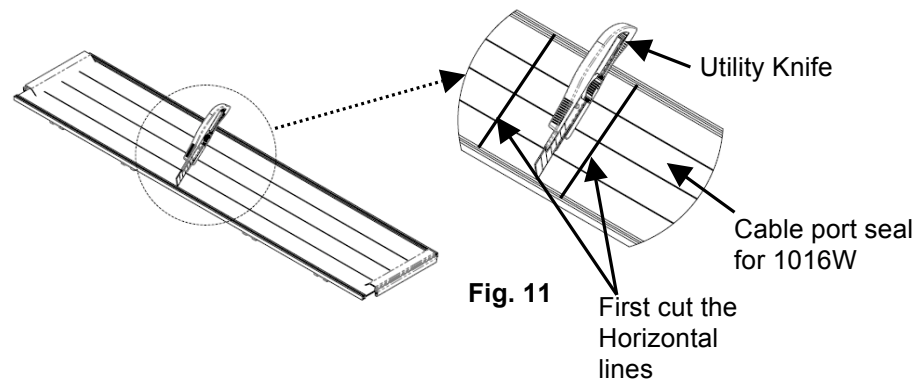

Fig. 11
10. Use Utility Knife to cut minimum material required to route cabling (Fig.11 and Fig. 12).